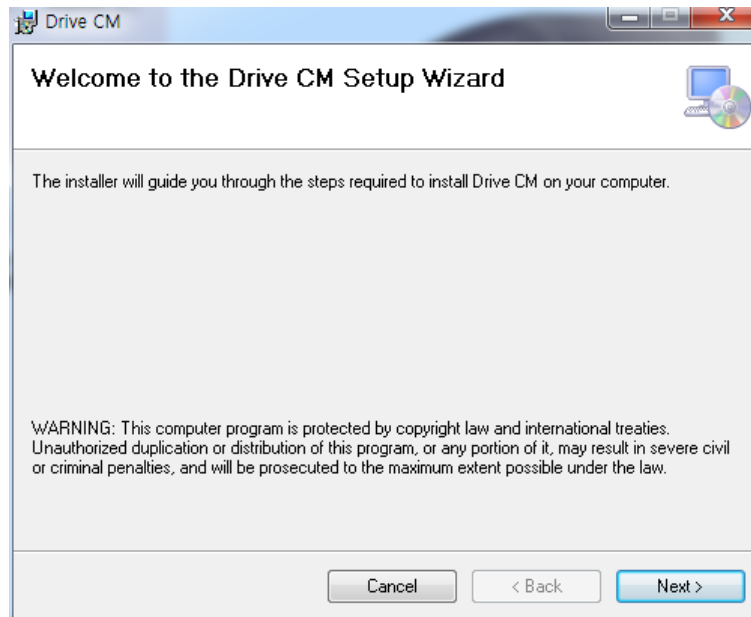

Figure 2-1.2
- (2) On the Welcome to the Drive CM Setup Wizard window as shown in Figure 2-1.2, click Next.